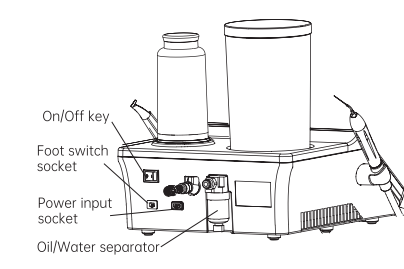

Figure 2 Back of Main Unit
- 2.6.6 Turn off the power switch, connect the power cord with the power port on the back of the main unit, and then plug in the 220VAC power, as shown in Figure 2.